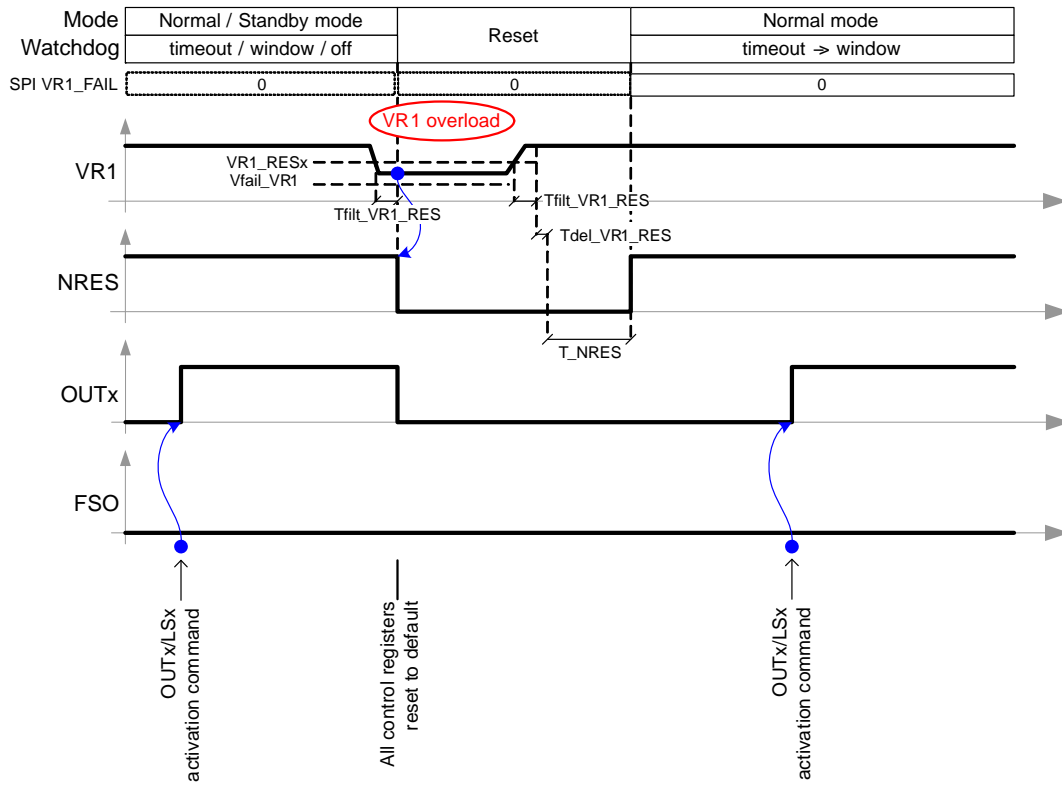

Figure 11. VR1 Monitoring – VR1 Undervoltage
- VR1 Reset Comparator – the VR1 regulator output is compared with a reset level  $VR1\_RES$  (programmable to typ. 74%, 79%, 87% and 91% of the nominal VR1 voltage). If the VR1 level drops below this level for longer than  $T_{filt\_VR1\_RES}$  (typ. 16  $\mu$ s), a reset towards the MCU is generated through the NRES pin and all outputs (OUT1–3, LS1/2) are switched off and all the control registers are set to their defaults, except “FSO\_DIS” bit setting (see Figure 11).